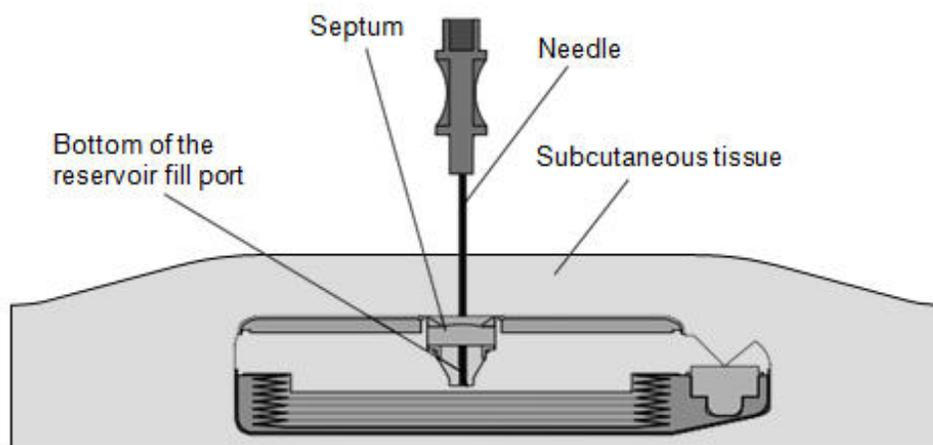

Figure 3. View inside of a SynchroMed programmable pump while the needle is fully and properly inserted.
8. Gently insert the 22-gauge needle perpendicular to the surface of the pump through the **center** of the template and into the center of the reservoir fill port until the needle touches the bottom of the reservoir fill port (Figures: 3 – 4).